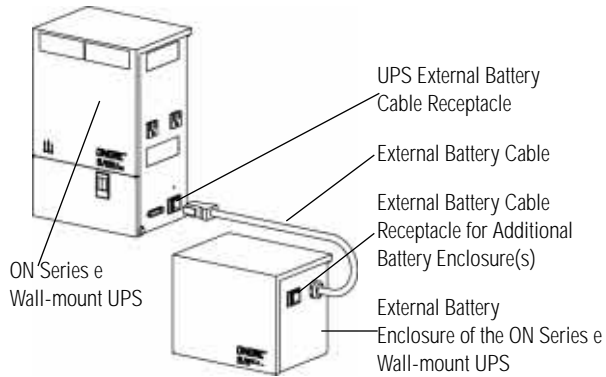

fig. 2: ON Series e Wall-mount UPS and External Battery Connections
1. Connect the battery cable from the closest battery enclosure to the external battery receptacle on the UPS, see fig. 2.